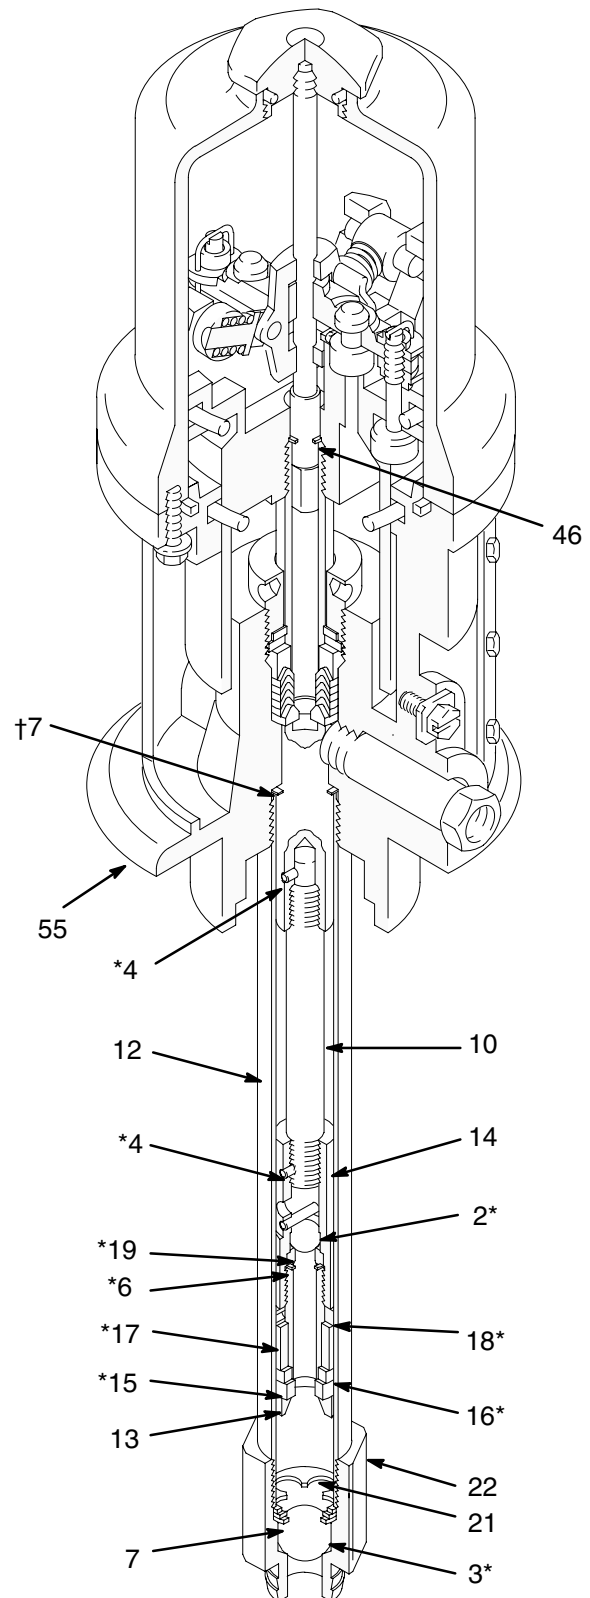

Fig. 9
4. Unscrew the intake valve body (22) from the riser tube (12). See Fig. 9. Disassemble the intake valve.
5. Clean and inspect the parts for wear or damage, and replace parts as needed. Unless further service is needed, reassemble and reinstall the intake valve, using liquid sealant on the male threads. See Fig. 9.
6. Use a strap wrench on the riser tube (12) to screw it out of the air motor base (55). Carefully inspect the smooth inner surface of the cylinder for scoring or irregular surfaces. Such damage causes premature packing wear and leaking, so replace the part if damaged.
7. Unscrew the piston body (13) from the piston coupling (14). Remove the ball (2*), seat (19*), gasket (6*), bearing (18*), packing (17*), and seal (16*). Do not remove the press-fit brass bearing (15*). See Fig. 9.